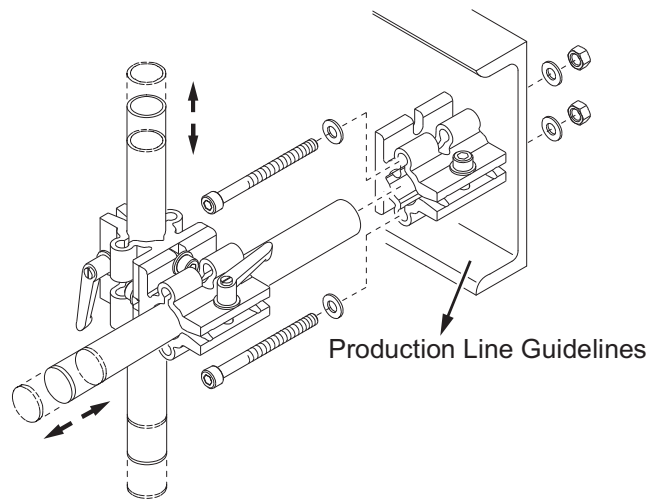

Figure 3-6: QM1610 Production Line Guidelines
- 5 Attach the vertical stainless steel tube to the combined aluminium clamp (refer to Figure 3-6).